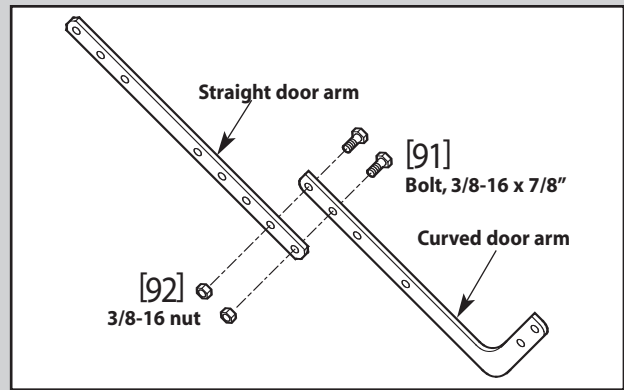
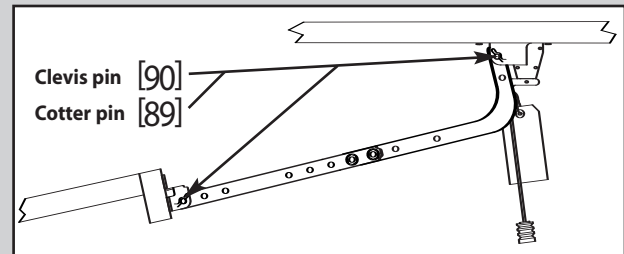

Fig. 2-16
Fig. 2-17
10. Join door arms exactly as shown (Fig. 2-16).
- Overlap arms by two (2) holes.
- Install two (2) 3/8" x 7/8" hex bolts, and hex flange nuts.
11. Install assembled door arms (Fig. 2-17).